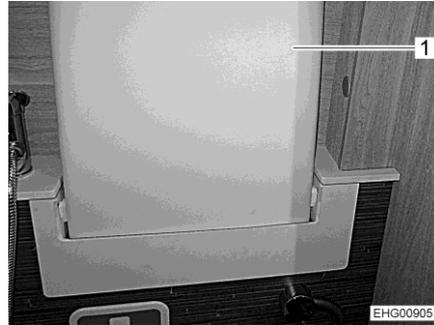

Fig. 137 Wash basin (folded upwards)
- Grip the wash basin (Fig. 137,1) at the front edge and swivel it upwards to the wall until it is held in this position by magnetic force.
- Grip the wash basin (Fig. 137,1) at the front edge and pull it away from the wall against the magnetic force.